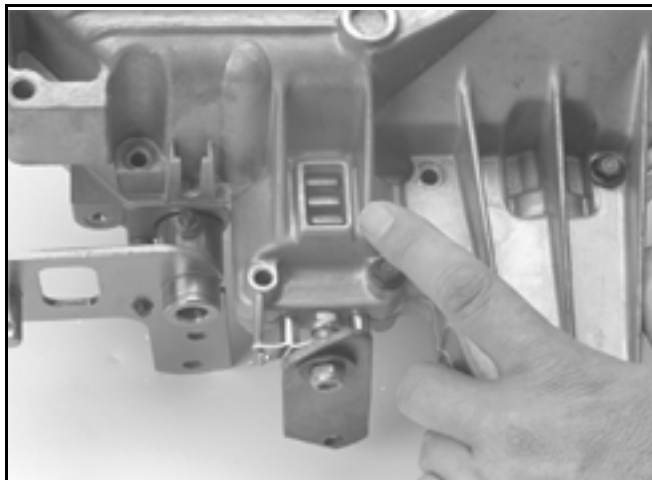

Figure 108
4. Check the brake rotors for dirt or debris. Clean and flush out the brake rotors using either WD-40 or a brake cleaner. After cleaning, check the brake adjustments (Figure 108).